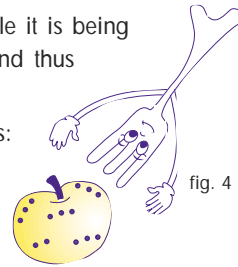

fig. 4
- 4) **Foods having a skin, shell or peel (e.g., apples, potatoes, tomatoes, frankfurters, fish) must be pierced with a fork in several points so as to permit steam to escape and to prevent those items from exploding (see Fig. 4).**